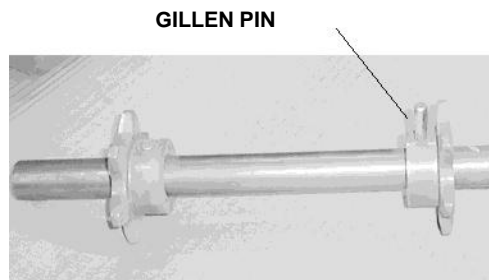

Figure 17: Installing the headshaft
2. Drive the gillen pin into the holes in the belt sprocket and headshaft (Figure 17), or install the sprocket key if the unit is so equipped.